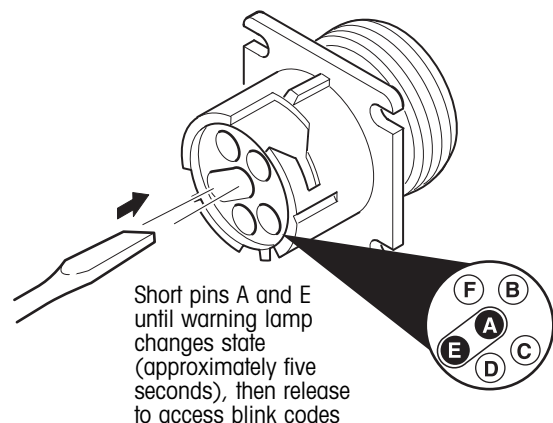

Figure 27. Entering diagnostic mode
2. Remove the weather cap from the diagnostic connector on the HTIS harness (figure 27). Using a screwdriver, short pins "A" and "E" together for approximately five seconds until the warning lamp changes state. The pins to be shorted can be easily identified by the interconnecting slot in